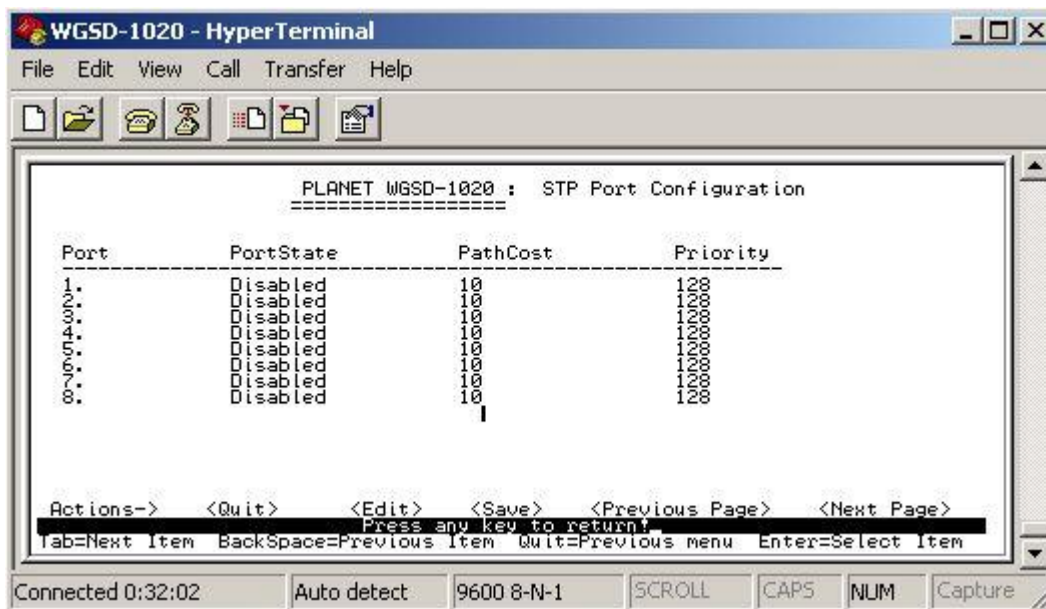

Figure 4-54 STP Port configuration screen
2. After setup completed, press” **Ctrl-A**” to “**Action menu**” and choose “**save**” to save the current configure. The screen in Figure 4-54 appears.